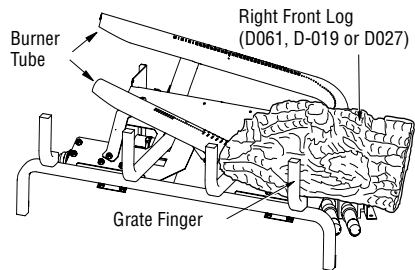

Figure 22 - Installing Right Front Log
- Find the right front log (SouthernComfort24A/B or ShadyHollow24A/B models: D-061, SouthernComfort30A/B or ShadyHollow30A/B models: D-019, SouthernComfort36A/B or ShadyHollow36A/B models: D-027). See **Figures 22, 22A, 22B, and 22C** for reference. The log has a rectangular shape on the bottom that fits against the lip on the black metal base, the square grate, and the round tube burner. Slide the log in place as shown in Figures.